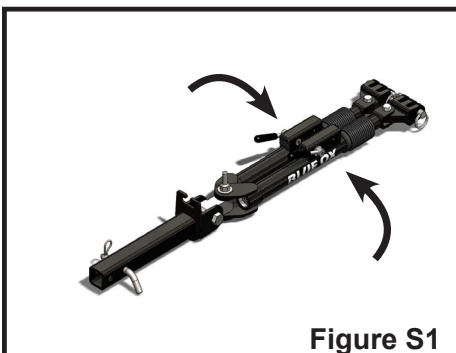

Figure S1
1. Swing the legs inwards towards each other (Figure S1).